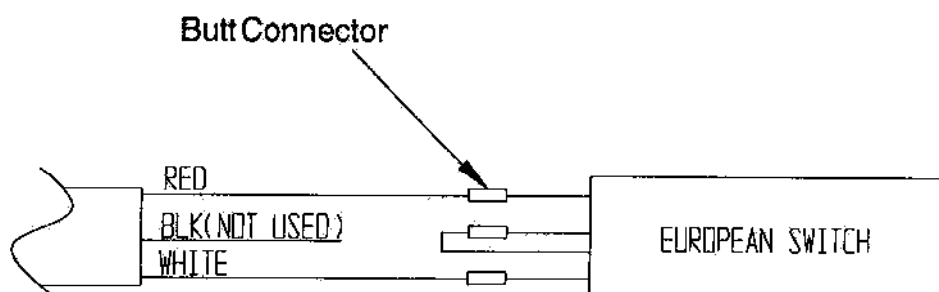

Figure 3
4. Cut off 3 Conductor Cable from switches. Tie back black wire. It will no longer be used. See Figure 3.
6. The new switch has four black wires coming off the back. Connect the two middle wires together. Butt connect red wire, from the 3 Conductor cable, to one of the black wires. Connect the white wire, from the 3 Conductor cable, to the remaining black wire of switch. See Figure 3.